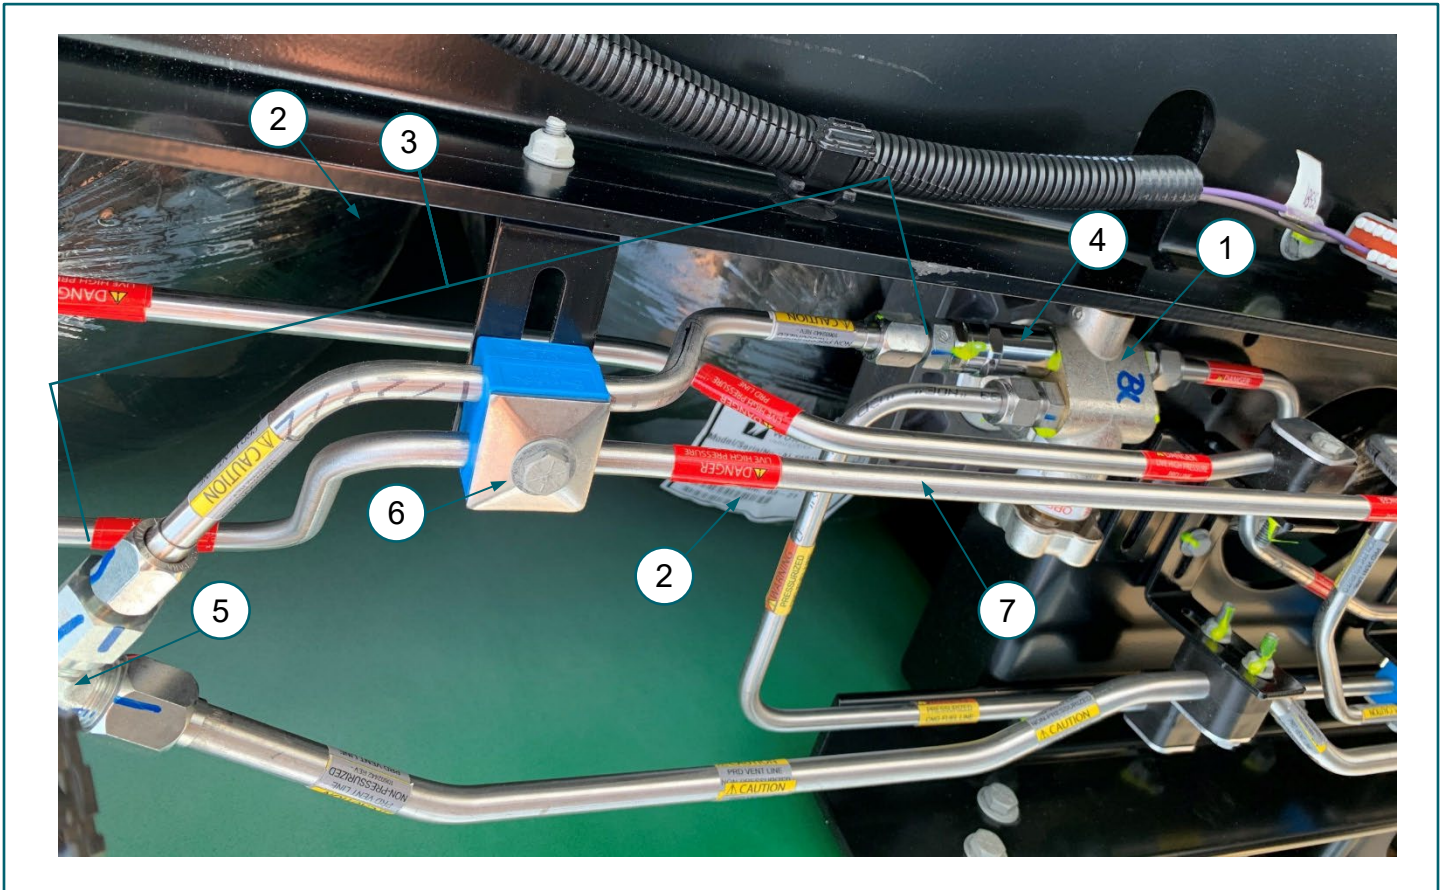

FIGURE 6. Upper cylinder valve end plumbing components
8. Use a pair of 11/16-in wrenches to remove (3) upper PRD vent tube nut fittings from (4) upper PRD and tee fitting (5). **FIGURE 6**
9. Use a wrench to remove fasteners securing (6) tube clamp and (3) upper PRD vent tube to (7) live PRD tube and set aside fasteners and tube clamp for reuse. **FIGURE 6**
10. Remove (3) upper PRD vent tube. **FIGURE 6**
11. Remove (4) upper PRD from (1) upper cylinder valve. **FIGURE 6**